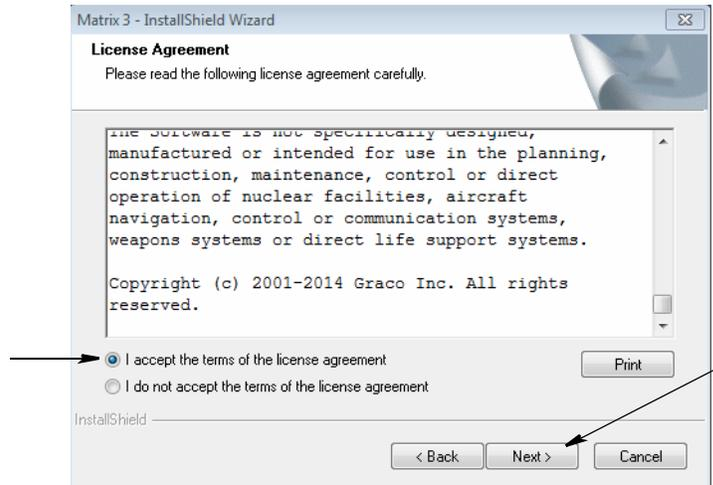

FIG. 4
- Review the End User License Agreement (FIG. 4). If acceptable, select "I accept the terms of the license agreement". After accepting the terms of the license agreement, the NEXT button becomes active. Click the NEXT button.